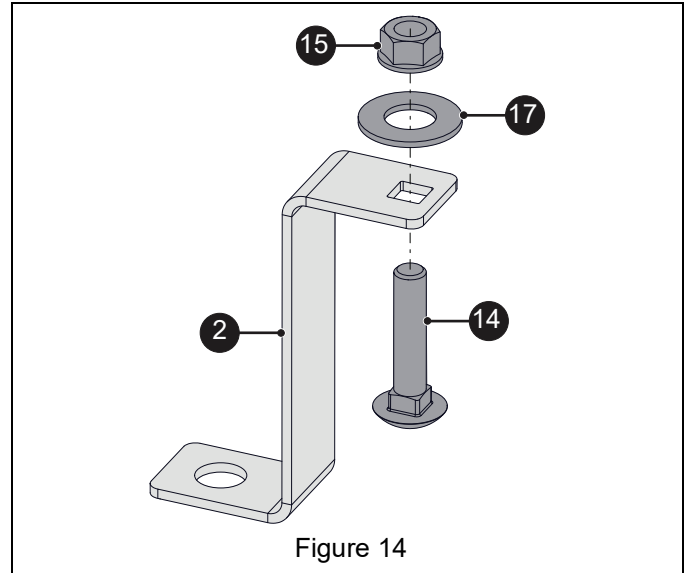

Figure 14
- Install one 5/16" x 1 1/2" round head square neck bolt (item 14) through blower guard bracket (item 2) and secure with one 1/2" x 1" x 1/16" flat steel washer (item 17) and one 5/16" spin lock flange nut (item 15). See Figure 14.